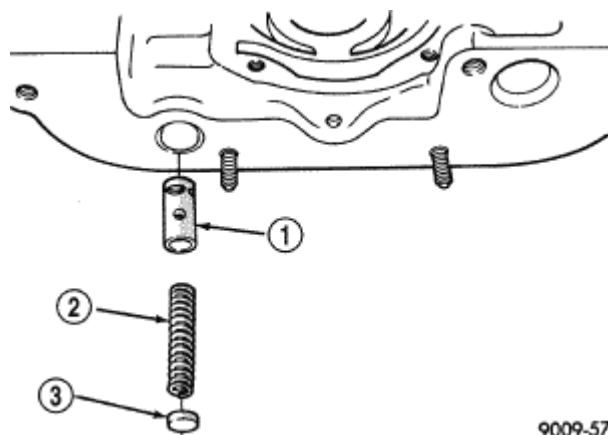

Fig. 193: Identifying Relief Valve, Spring & Retainer Cap
9. Inspect oil pressure relief valve and bore. Inspect for scoring, pitting and free valve operation in bore. See **Fig. 193**. Small marks may be removed with 400-grit wet or dry sandpaper.